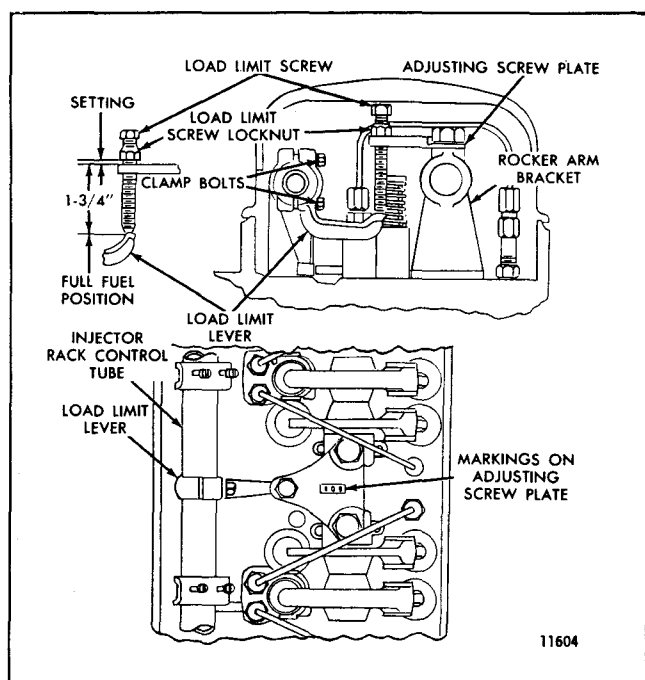

Fig. 1 - Engine Load Limit Device
Engines with mechanical governors may be equipped with a load limit device (Fig. 1) to reduce the maximum horsepower.
Fig. 1. Make sure the counterbores in the adjusting screw plate are up. The rocker arm shaft bracket bolts which fasten the adjusting screw plate to the brackets are tightened to 75-85 lb-ft (102-115 Nm) torque. All other rocker arm shaft bracket bolts are tightened to 90-100 lb-ft (122-136 Nm) torque. Then adjust the load limit device as follows:
3. With the screw out of the plate, adjust the load limit screw lock nut so the bottom of the lock nut is $1\frac{3}{4}$ " from the bottom of the load limit screw (Fig. 1) for the initial setting.